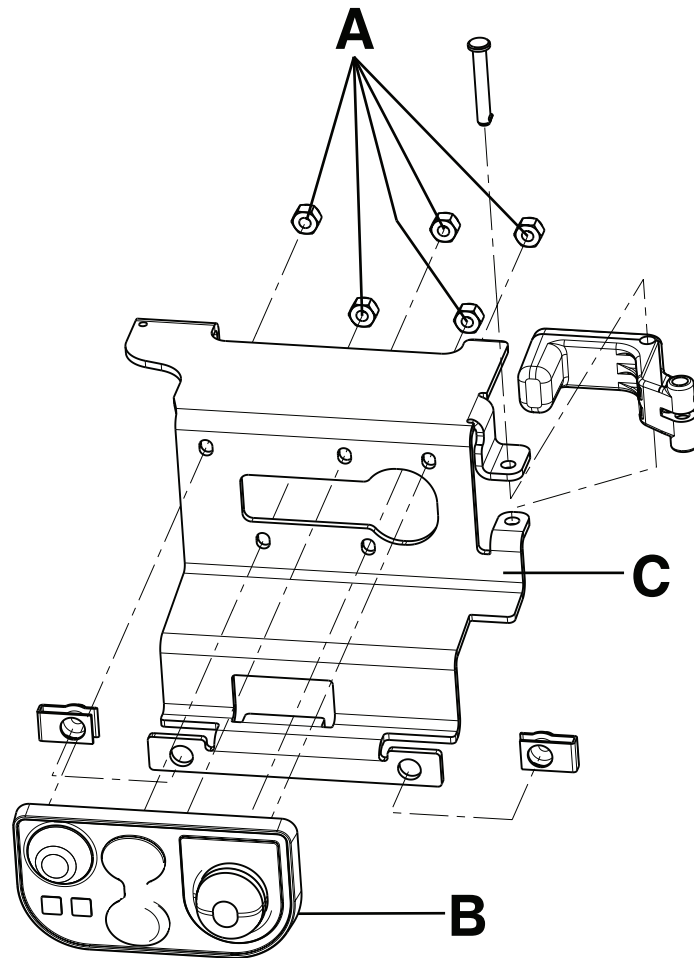

Figure 11: Master On/Off switch and manual release button bracket assembly
2. Using an 11/32" nut driver, remove the five Fiberlock hex nuts (A) that secure the master On/Off switch (B) to the manual release button bracket (C). Discard the master On/Off switch (Figure 11 on page 46)